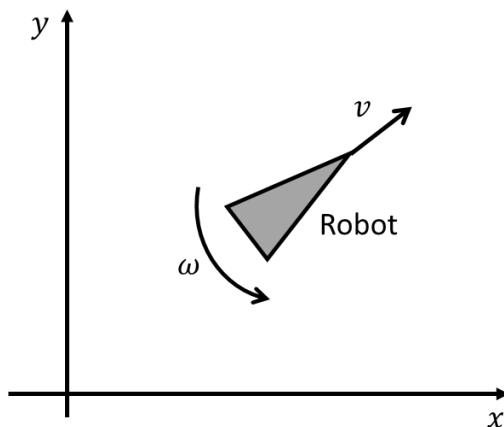

FIGURE 101 ROBOT LINEAR AND ANGULAR VELOCITIES
- The topic used to send command to the robot is `/cmd_vel` and the type of message is `geometry_msgs/Twist`. Where the linear velocity v and angular velocity ω are set as follows (refer to Figure 101).